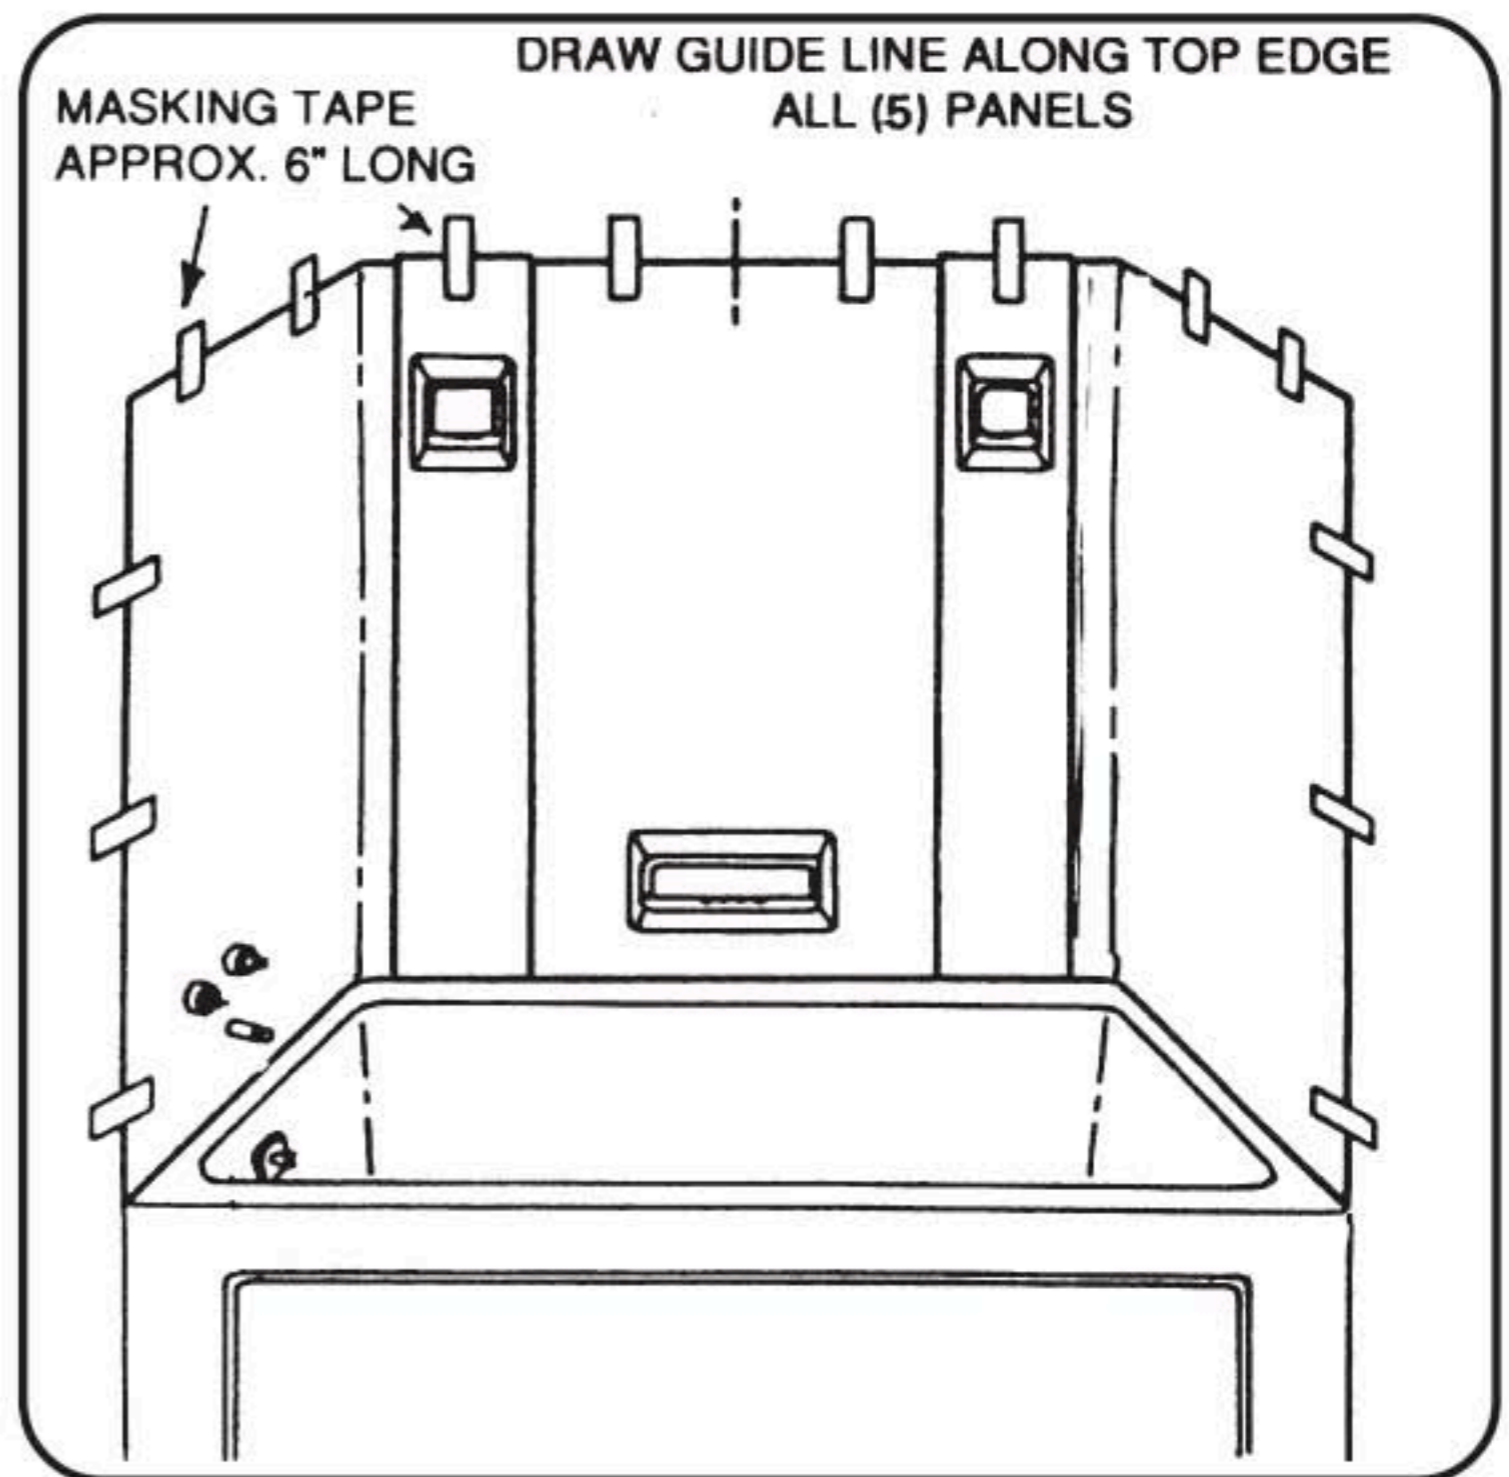

FIG. 3.
3. Place **Center Panel** against backwall, resting bottom edge on bathtub rim. Align center lines, using masking tape - temporarily tape **Center Panel** in place. Temporarily tape **Corner Panels** in place. Position **Filler Panels**, check for proper overlap and alignment of **Center** and **Corner Panels**, if any trimming is required, trim equal amounts from **Center** and **Corner Panels**, -DO NOT- trim **Filler Panels**. If overlap and alignment is correct, draw 2 light pencil lines along the top edge of **Corner, Filler and Center Panels**- this will be your reference when you permanently install Panels. Remove panels from alcove, carefully remove masking tape and clean top edges of Panels. Do not remove Centerline mark from **Center Panel**. (FIG.3)